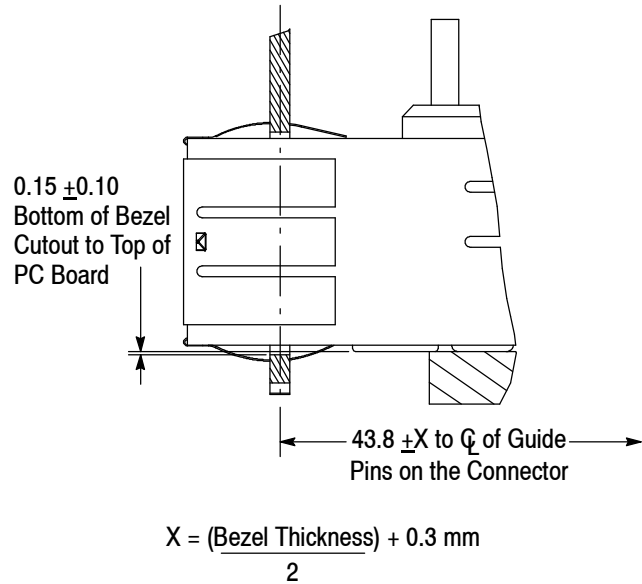

Figure 8
9. Mount the cage assembly (with the host pc board) onto the bezel. Make sure that the opening of the cage assembly is centered within the cutout of the bezel and the light pipe, if one is used, fits through the hole in the bezel. The bezel should compress the EMI springs on all four sides of the cage. See Figure 8.
To avoid interference with the insertion and extraction of the transceiver, IT IS IMPORTANT that the bezel and pc board be positioned in relation to each other according to Figure 8.